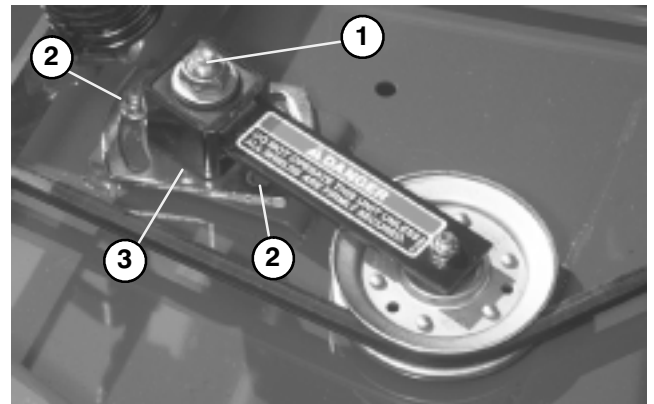

Figure 37
ADJUSTING IDLER PULLEY (Fig. 37)
3. Loosen two nuts securing idler plate in place. Using a socket and torque wrench, tighten the idler adjusting nut to 40-50 ft-lb. (Fig. 37).